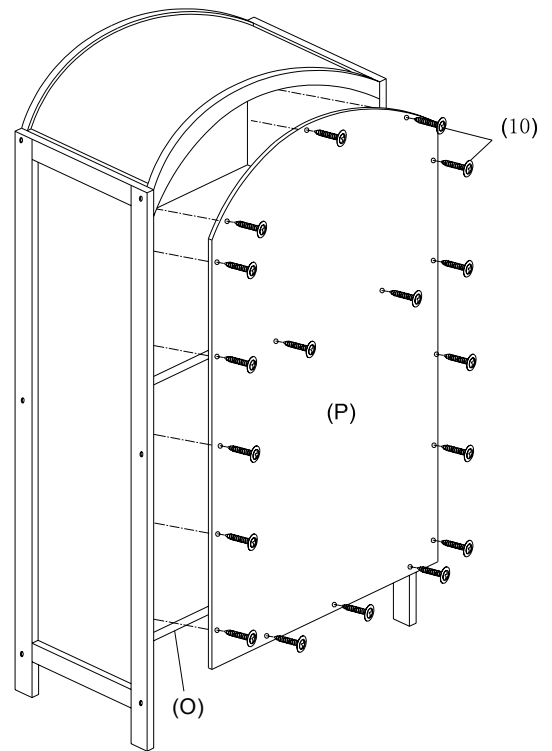

FIGURE 5
9. ATTACH BACK PANEL (P) INTO SLOTS ON PARTS (A, E, F, O). INSERT PAN HEAD WOOD SCREWS (Ø2.6X10mm) (10) THROUGH PREDRILLED HOLES ON BACK PANEL (P) AND TIGHTEN INTO CORRESPONDING HOLES ON REAR EDGES OF PARTS (A, B, E, F, O). (AS SHOWN IN FIGURE 5)